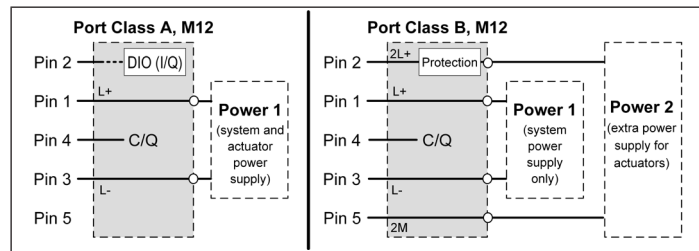

Fig. 11: Layout principles for Port Class A and B
- Power supply (see “Fig. 11” and chapter “13.4”)